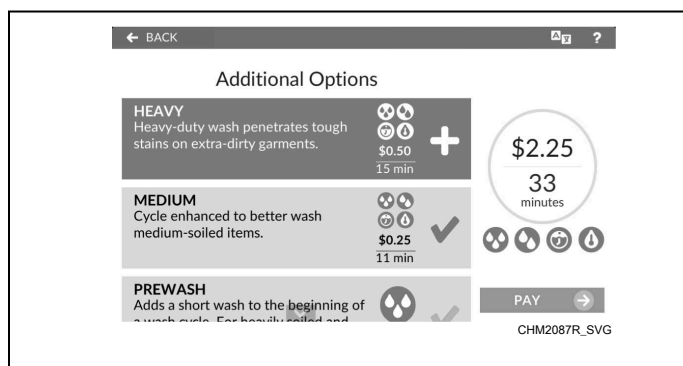

Figure 58
3. If programmed, select desired options from the Additional Options Menu. The vend price and cycle time changes accordingly. When finished adding options, touch PAY (refer to *Figure 58*). Additional options are not available on Rinse the Machine.